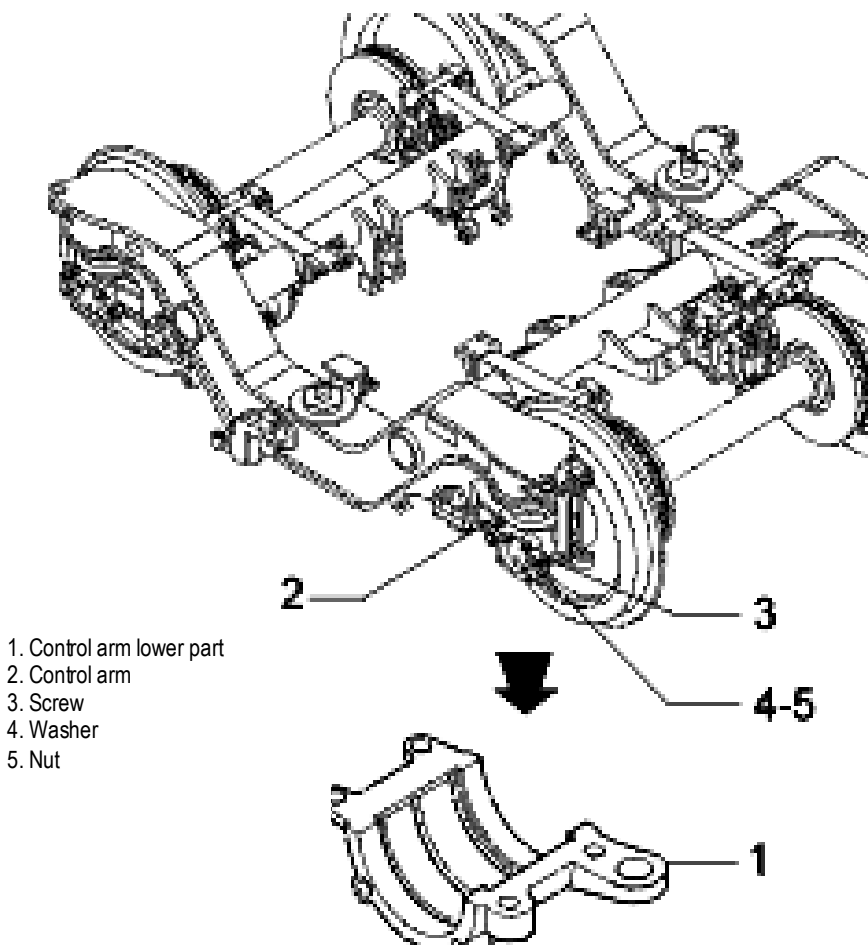

Fig. 3.17 Removal of the Lower Part of the Control Arm
Then proceed with removal of the lower part (Fig. 3.17) of the control arms (2), extracting the screws (3), the washers (4) and the nuts (5). Proceed with all the four control arms.